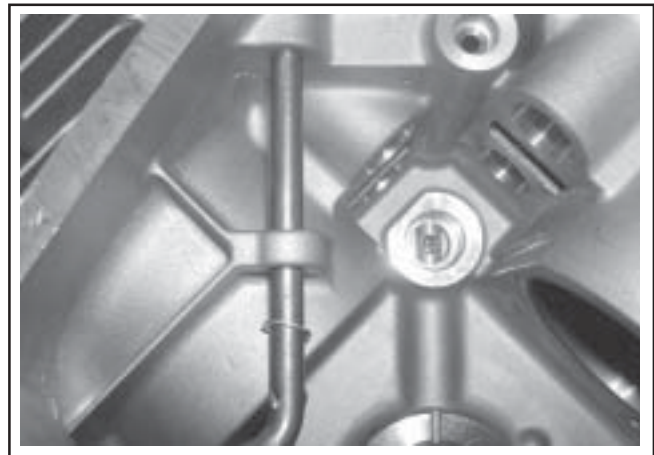

Figure 11-5. Installing 8 mm Governor Cross Shaft.
**8 mm Governor Shaft:** Install the nylon washer onto the governor cross shaft, then start the push-on retaining ring. Hold the cross shaft up in position, place a 0.50 mm (0.020 in.) feeler gauge on top of the nylon washer, and push the retaining ring down the shaft to secure. Remove the feeler gauge, which will have established the proper end play. See Figures 11-5 and 11-6.